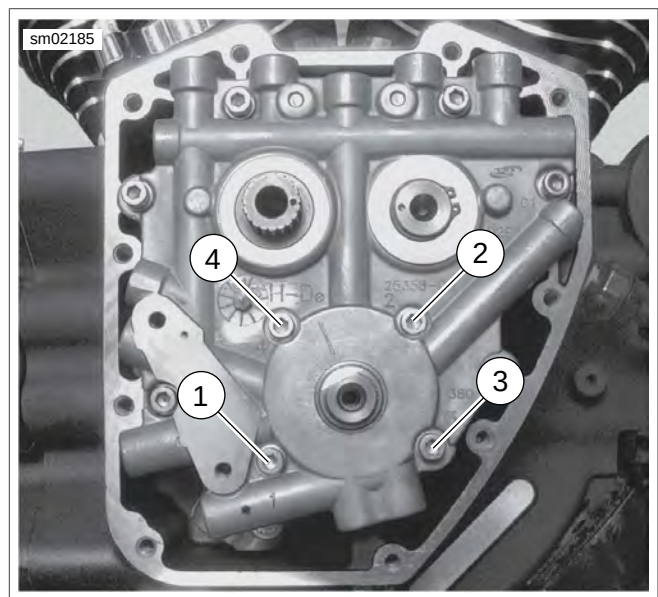

Figure 3-113. Oil Pump Torque Sequence
6. See Figure 3-113. Secure oil pump.